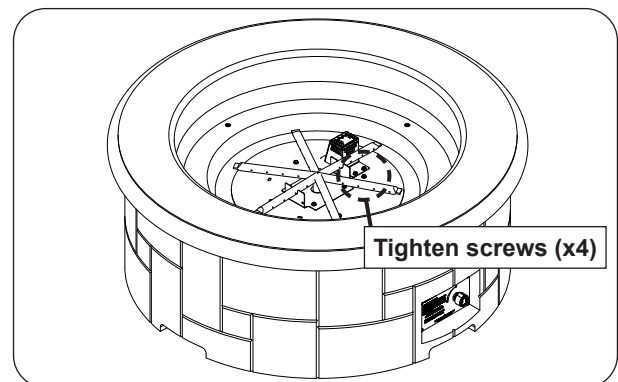

Fig. 34-3 Install burner
2. Use a $\frac{5}{16}$ " nut driver to fasten the burner to the base (see Fig. 34-3).